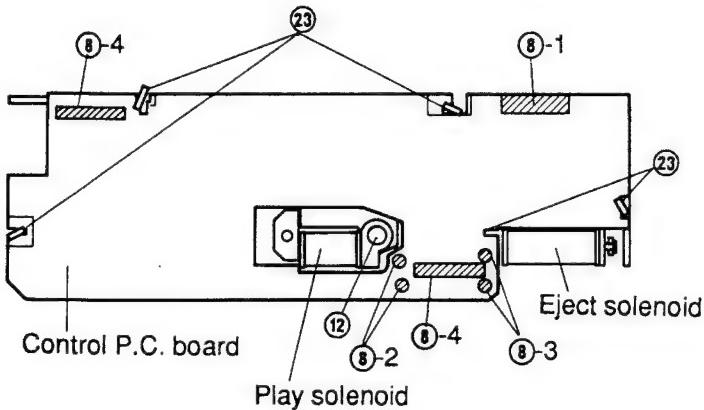

Figure 11
- (2) Remove solder ⑧-1, and remove the parallel wire (5P) from the control PC board as shown in Figure 11.
- (1) Remove the two solders ⑧-2 as shown in Figure 11.
- (2) Remove one screw ⑫ and remove the solenoid as shown in Figure 11.
- (3) Mount the new solenoid following the removal steps in the reverse order.
- (1) Remove two solders ⑧-3. Take care not to loose the tube that protects the wire. (Refer to Figure 11.)
- (1) Remove seven solders ㉓ and remove the three parallel wires and the wires of the eject solenoid and of the play solenoid as shown in Figure 11.
- (2) Remove the claws ㉔ and remove the PC board as shown in Figure 11.
- (3) After replacing the old PC board with a new one, mount it following the removal steps in the reverse order.